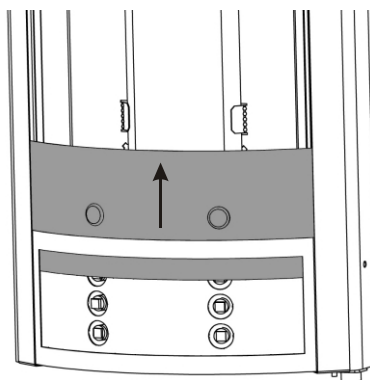

Fig 7
1. Slide Single Dispense Panel upwards to remove and replace with Multi-Dispense Panel (Fig 7).